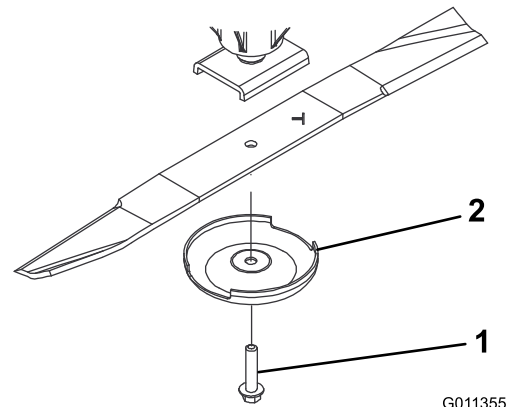

Figure 66
- Remove the blade bolt, anti-scalp cup, and blade from the spindle shaft (Figure 66).